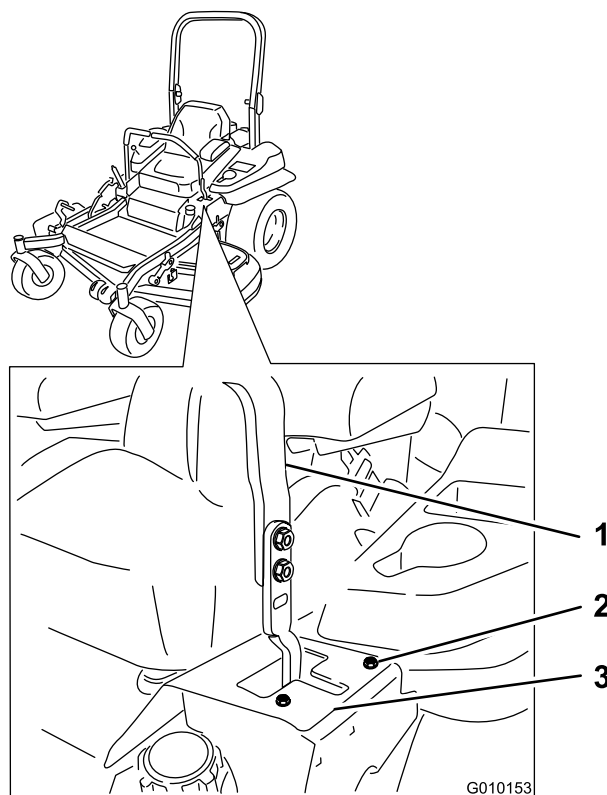

Figure 63
- If the machine tracks to the right, loosen the bolts and adjust the left stop plate rearward on the left T-slot until the machine tracks straight (Figure 63).
- If the machine tracks to the left, loosen the bolts and adjust the right stop plate rearward on the right T-slot until the machine tracks straight (Figure 63).
8. Tighten the stop plate (Figure 63).